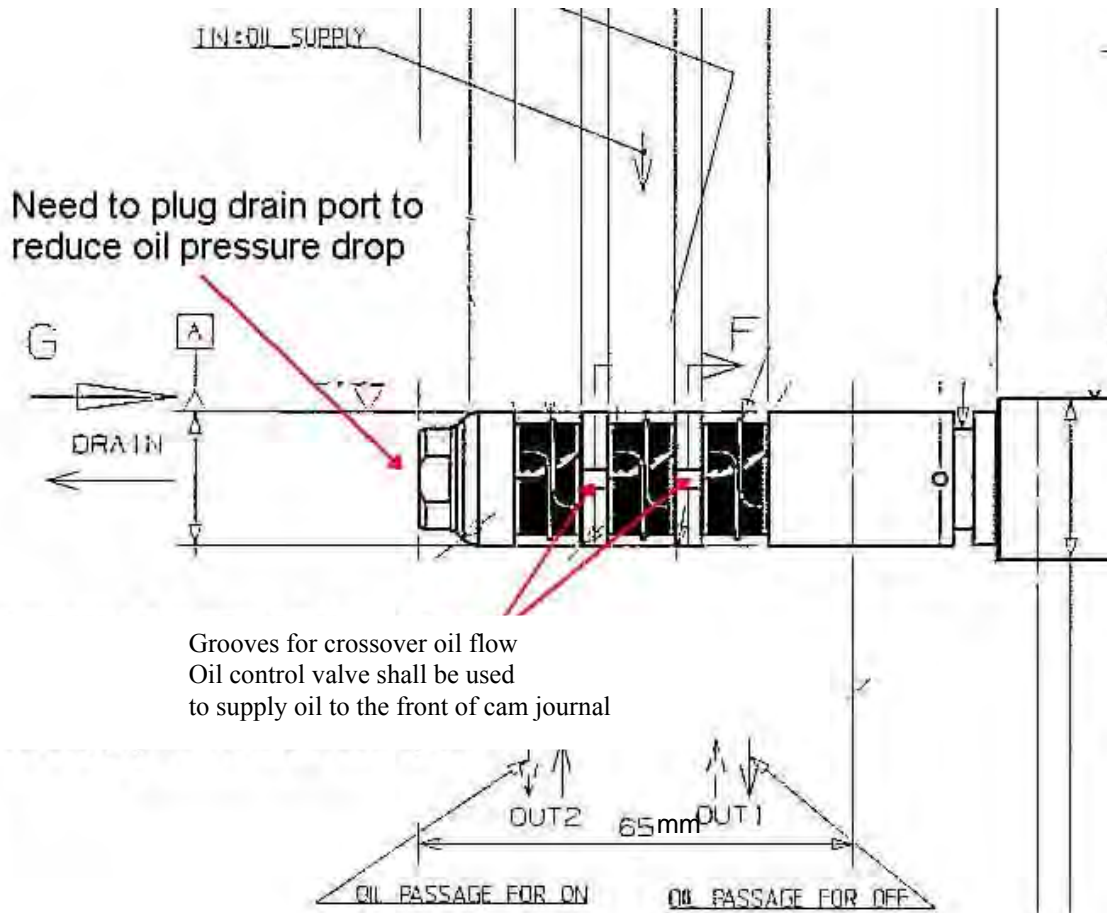

Fig. A2.21 Camshaft Position Actuator Modifications
9.4.22 *Camshaft Position Actuator Modification*--For Sequence VID test operation, the camshaft position actuator shall be in place to provide lubrication to the front camshaft journals. Close, by tig welding, the actuator drain ports to reduce excessive oil bleeding through the control valves during engine operation as the valves are positioned in a manner that allows complete drainage through the spool valves (see Fig. A2.21).